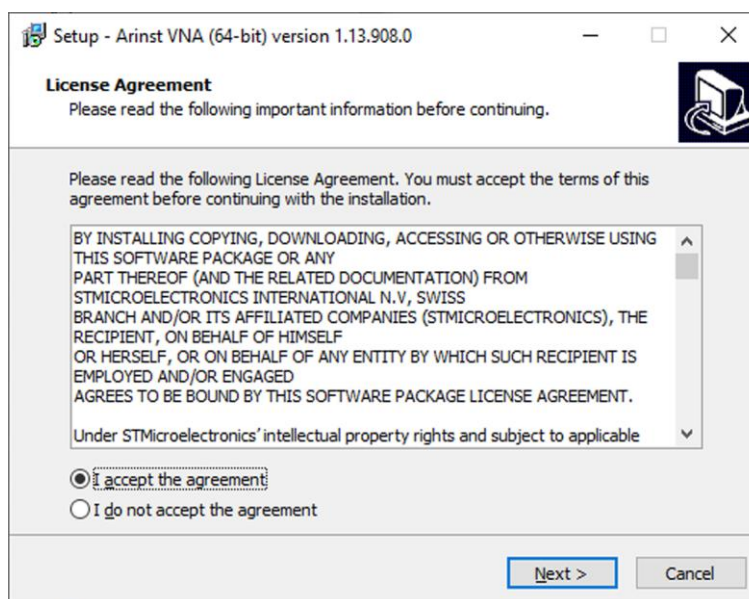

Figure 2.5 - License agreement
2.5. Read the terms of the license agreement carefully. To further install the application, accept the terms of the license agreement and click **Next** (Figure 2.5).